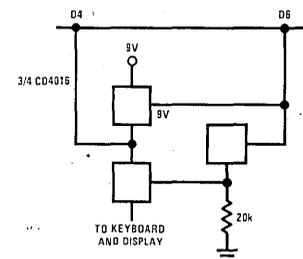

FIGURE 2. Calculator Speed Up Circuits
*Figure 2* illustrates circuits for accomplishing the speed-ups given in Table I.